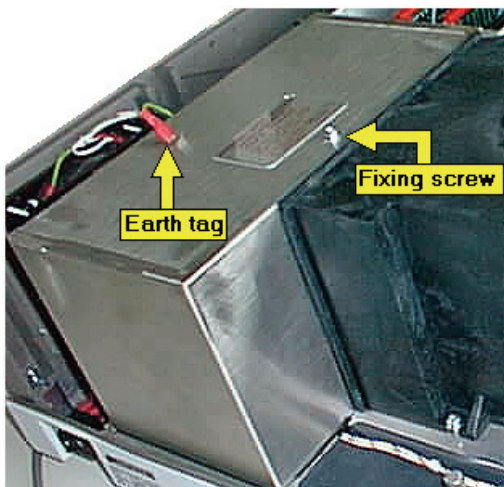

Figure 131 Earth lead and fixing screw
15. Re-connect the earth tag and replace the fixing screw, as shown in Figure 131.